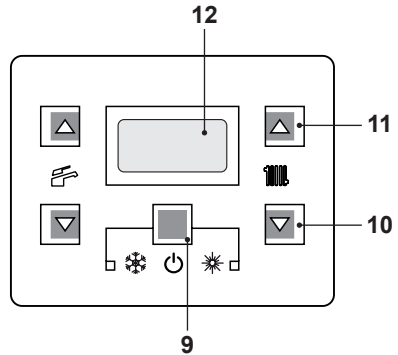
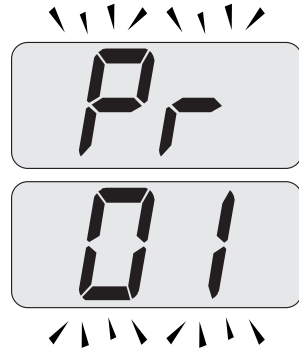
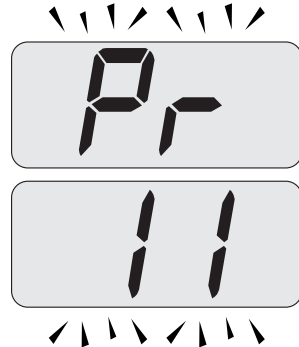
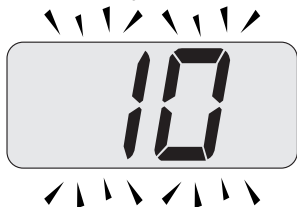

Fig. 8.14
Fig. 8.15
Fig. 8.16
Fig. 8.17
- Enter in "programming mode" by sequentially pressing keys 9 - 10 - 11 (Fig. 8.14) for 10 seconds at the same time until the letters **Pr** that alternate with code **01** are displayed on the LCD display, indicating that "parameter 01" (Fig. 8.15) has been activated.
- Scroll the various parameters using keys 10 or 11 until the letters **Pr** that alternate with code **11** are displayed on the LCD display, indicating that "parameter 11" (Fig. 8.16) has been activated.
- Press keys 9 and 11 (Fig. 8.14) at the same time until the value of parameter 11 (10=60 seconds) (Fig. 8.17) is displayed on the LCD display.
- By pressing key 9 (Fig. 8.14) confirmation of the inserted value is obtained.
- Press keys 9 and 10 (Fig. 8.14) at the same time to exit without changing the value (return to the parameters list Fig. 8.16).
- Press sequentially keys, 9 - 10 and then 11 (Fig. 8.14) and hold in for 10 seconds to exit the "programming mode".